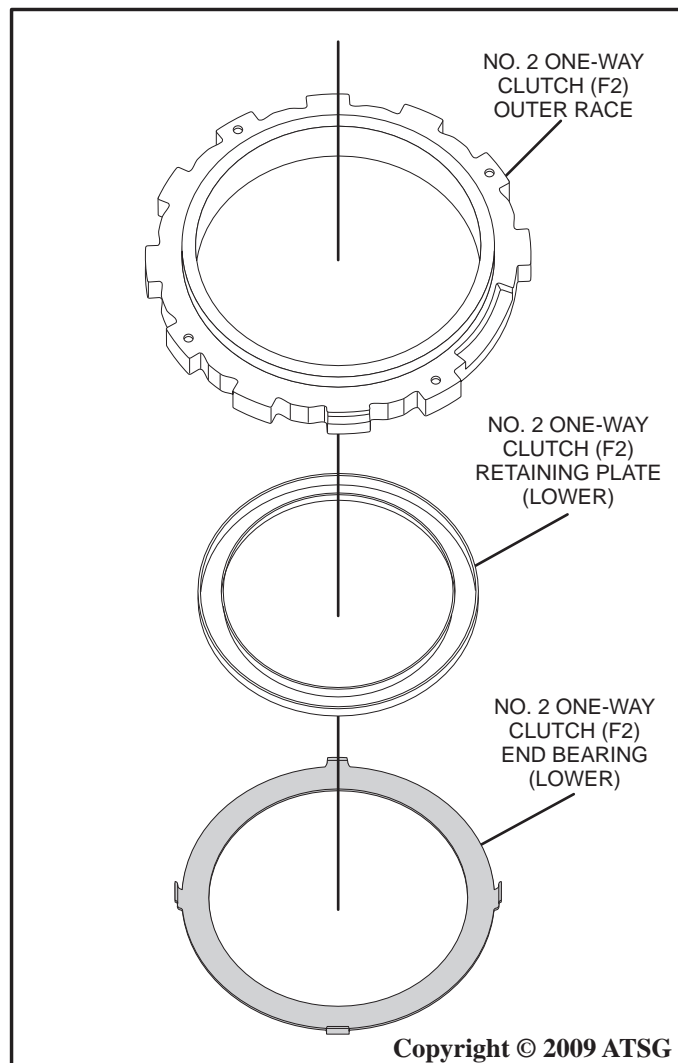

Figure 122
4. Install the retaining plate (lower) to the No. 2 one-way clutch (F2) outer race and snap into place as shown in Figure 122.
5. Install the end bearing (lower) into the No. 2 one-way clutch (F2) outer race as shown in Figure 122.